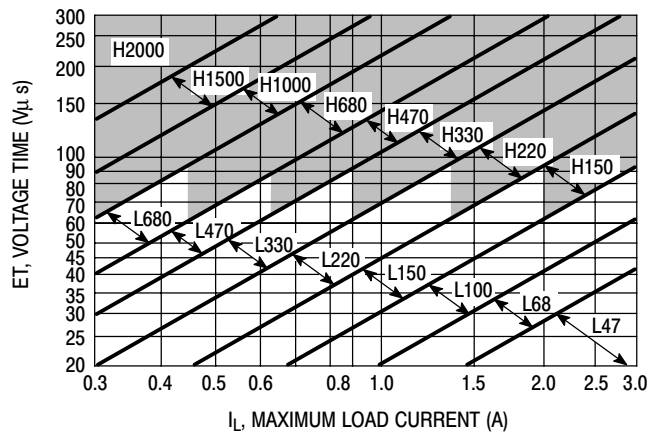
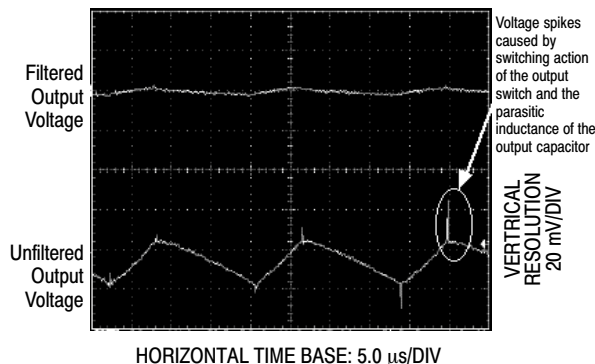

Figure 22. LM2576-ADJ
Figure 25. Output Ripple Voltage Waveforms
4. Inductor Selection (L1) A. Use the following formula to calculate the inductor Volt x microsecond [V x μs] constant: $E \times T = (V_{in} - V_{out}) \frac{V_{out}}{V_{in}} \times \frac{10^6}{F[Hz]} [V \times \mu s]$ B. Match the calculated E x T value with the corresponding number on the vertical axis of the Inductor Value Selection Guide shown in Figure 22. This E x T constant is a measure of the energy handling capability of an inductor and is dependent upon the type of core, the core area, the number of turns, and the duty cycle. C. Next step is to identify the inductance region intersected by the E x T value and the maximum load current value on the horizontal axis shown in Figure 25. D. From the inductor code, identify the inductor value. Then select an appropriate inductor from Table 2. The inductor chosen must be rated for a switching frequency of 52 kHz and for a current rating of $1.15 \times I_{Load}$. The inductor current rating can also be determined by calculating the inductor peak current: $I_{p(max)} = I_{Load(max)} + \frac{(V_{in} - V_{out}) t_{on}}{2L}$ where t_{on} is the "on" time of the power switch and $t_{on} = \frac{V_{out}}{V_{in}} \times \frac{1.0}{f_{osc}}$ For additional information about the inductor, see the inductor section in the "External Components" section of this data sheet.	4. Inductor Selection (L1) A. Calculate E x T [V x μs] constant: $E \times T = (25 - 8.0) \times \frac{8.0}{25} \times \frac{1000}{52} = 80 [V \times \mu s]$ B. E x T = 80 [V x μs] C. $I_{Load(max)} = 2.5$ A Inductance Region = H150 D. Proper inductor value = 150 μH Choose the inductor from Table 2.
The regulator output voltage may also contain short voltage spikes at the peaks of the sawtooth waveform (see Figure 25). These voltage spikes are present because of the fast switching action of the output switch, and the parasitic inductance of the output filter capacitor. There are some other important factors such as wiring inductance, stray capacitance, as well as the scope probe used to evaluate these transients, all these contribute to the amplitude of these spikes. To minimize these voltage spikes, low inductance capacitors should be used, and their lead lengths must be kept short. The importance of quality printed circuit board layout design should also be highlighted.
In order to minimize the output ripple voltage it is possible to enlarge the inductance value of the inductor L1 and/or to use a larger value output capacitor. There is also another way to smooth the output by means of an additional LC filter (20 μ H, 100 μ F), that can be added to the output (see Figure 34) to further reduce the amount of output ripple and transients. With such a filter it is possible to reduce the output ripple voltage transients 10 times or more. Figure 25 shows the difference between filtered and unfiltered output waveforms of the regulator shown in Figure 34.